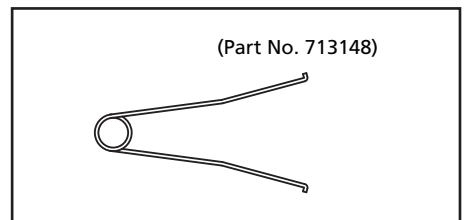

Figure 28
- Remove the sleeve using the sleeve remover (special tool: part number 713148). (See Figures 28, 29)